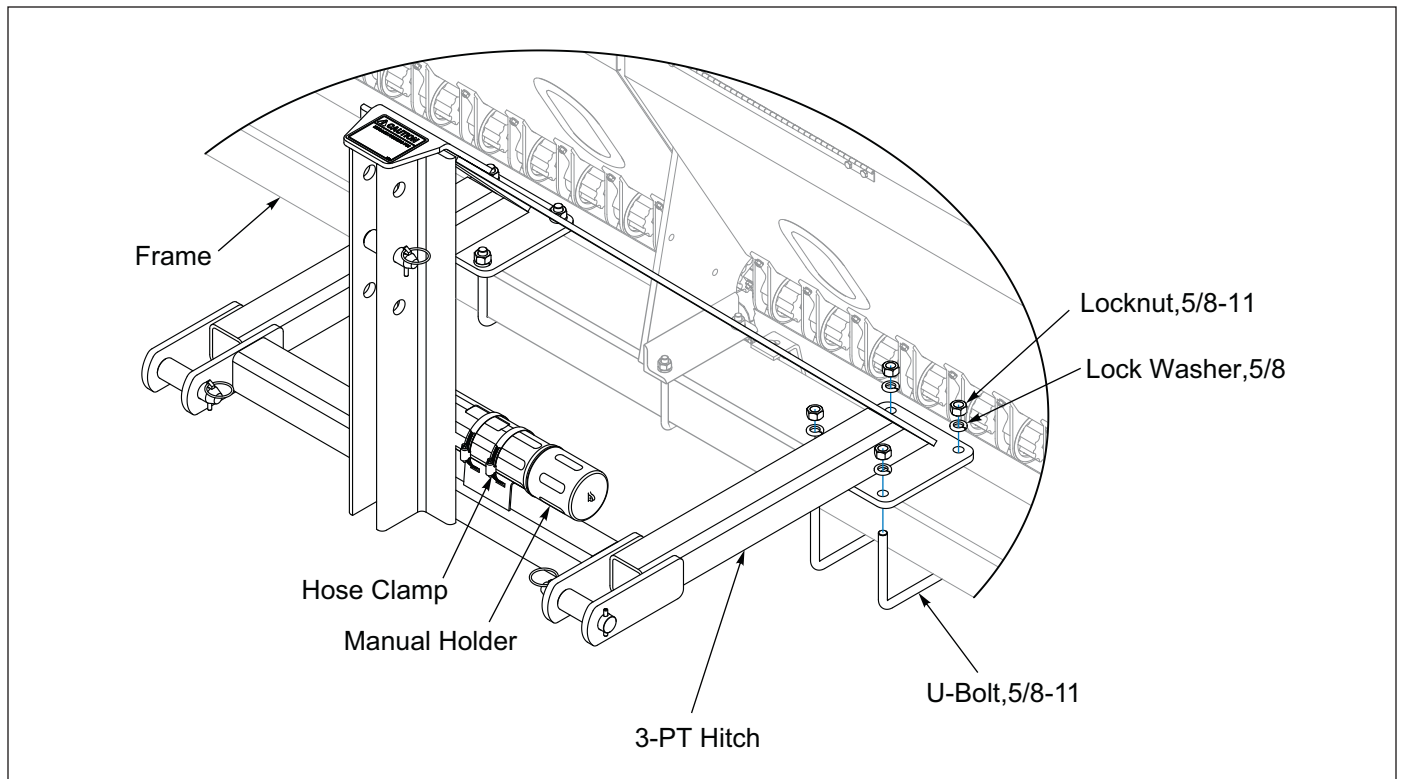

Figure 2-4: 3-PT Hitch
2. Center 3-PT Hitch Assembly in relationship with the Seed Box Center Bracket. Attach 3-PT Hitch to Seeder Frame Tube with 5/8-11 U-Bolts, Lock Washers and Locknuts. **See Figure 2-4.**